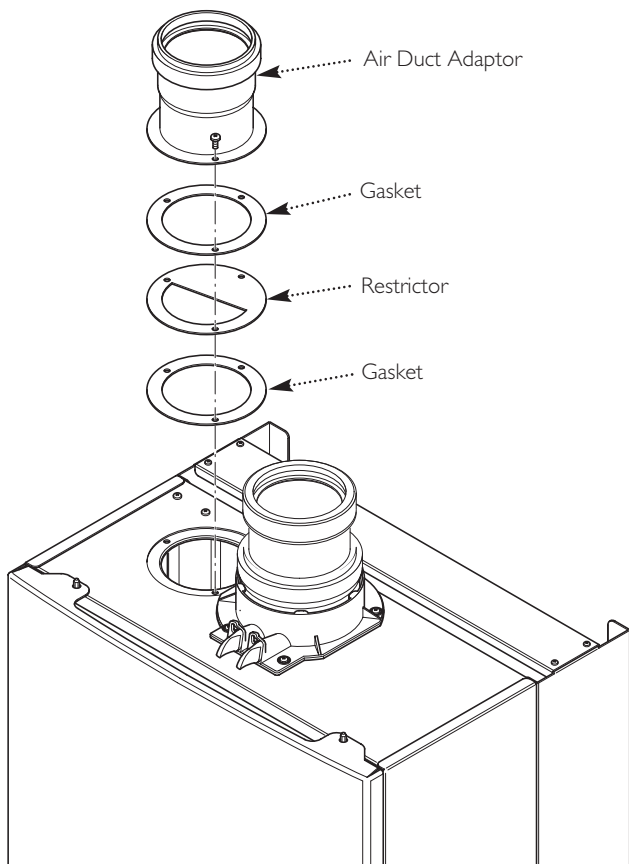

Fig. 12
8.5 Air duct adaptor (Fig. 12)